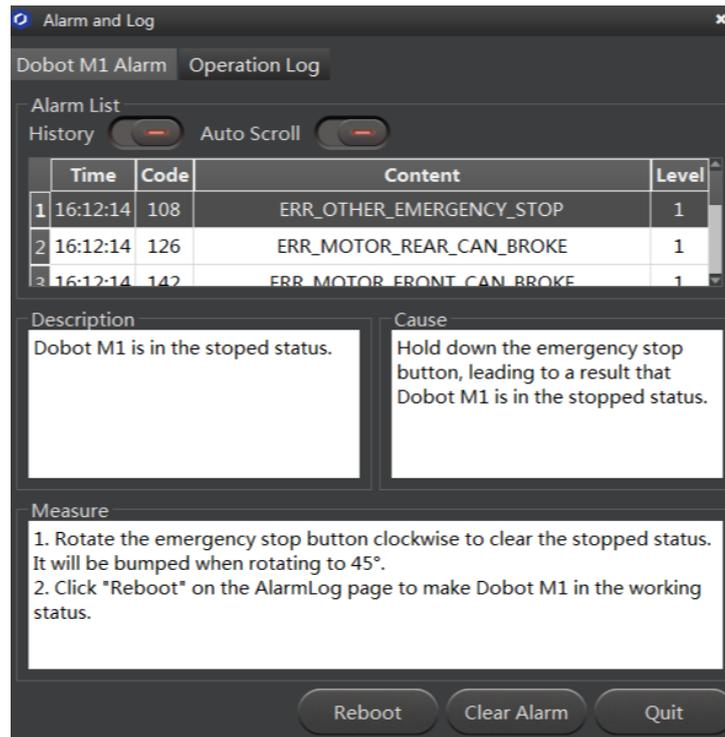

Figure 5.17 Alarm tab
**Step 5** Click **Reboot** on the **Dobot M1 Alarm** tab of **Alarm and Log** page to Restart Dobot M1, as shown in Figure 5.17.